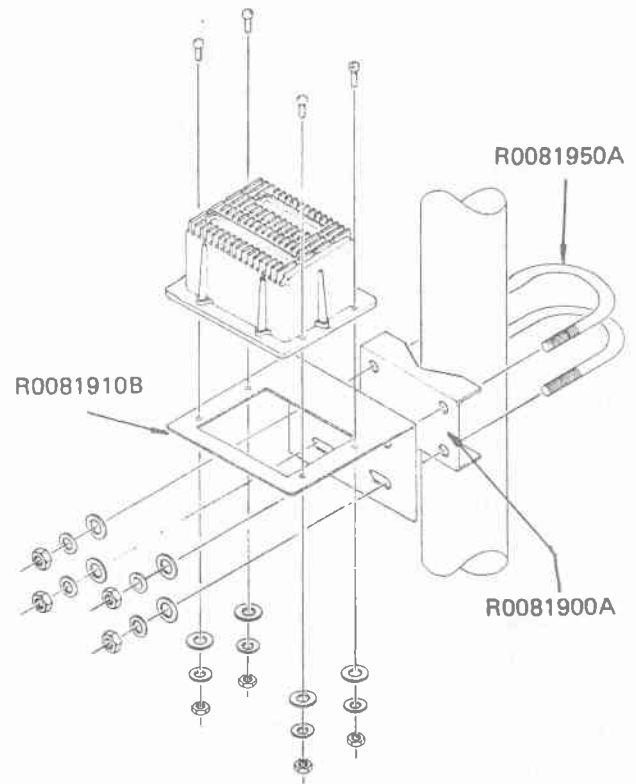

Figure 4
1. Bolt the FAS-1-4R to the angle bracket using the four screws, nuts and washers as shown in Figure 4.